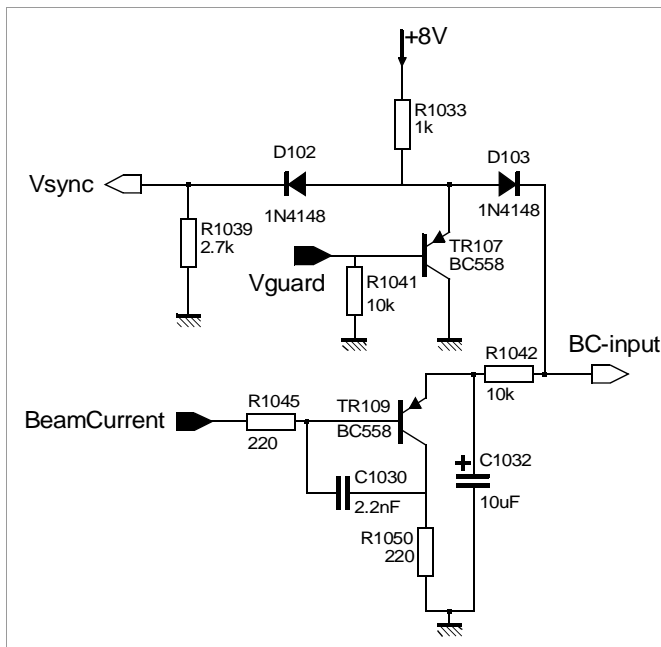

Fig.28 Average Beam current circuit
- Limiting the total average beam-current at high contrast and brightness settings. This limit is determined by the picture tube specification and also limits the EHT load. Therefore, the video-processor needs average beam-current information at input pin 22. Integration of the beam current results in the needed information, but smooths away large beam current steps. To avoid this, the application around transistor TR109 and capacitor C1032 were implemented (see Fig.28) . High average beam currents will result in fast contrast and eventual brightness reduction (fast attack), while on the other hand the recovery takes more time (slow decay). This avoids contrast and/or brightness flickering on the screen.